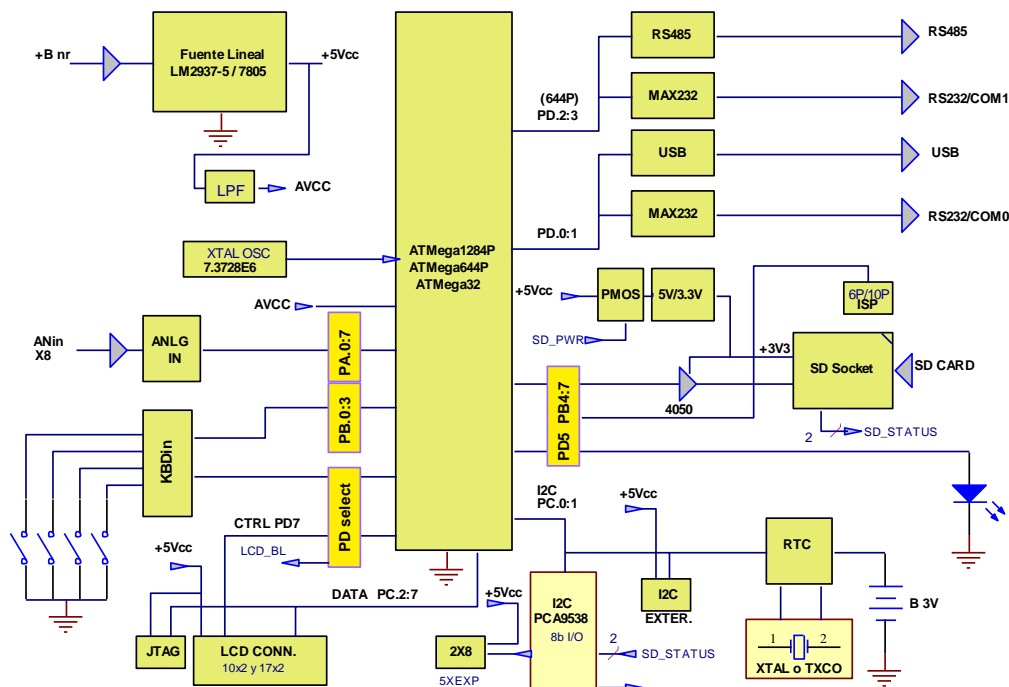

Figure 2 – Block diagram of the CL2bm1 board
2.a Block Diagram: L&R Ing. CL2bm1 boards were designed between 2009 and 2010, and have been reliably in use in many applications mainly for data logging and other control functions [ref09, ref10], usually teamed with the peripheral M4/E [ref11] board and or with the METEO board/module [ref12]. The block diagram of the board can be seen in Figure 2.